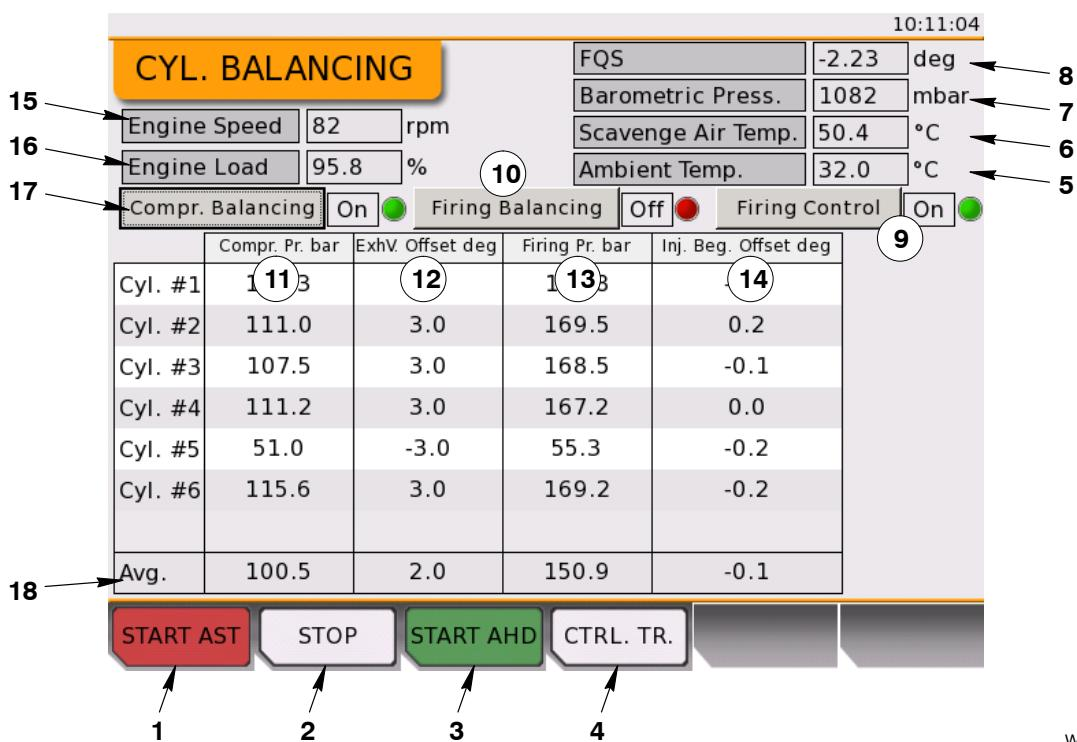

Fig. 8: Cylinder Balancing Page
- 1) To adjust the diesel fuel injection parameters, turn the rotary button to move the cursor to the related text field (see Fig. 8). Push the rotary button to enter the edit mode.